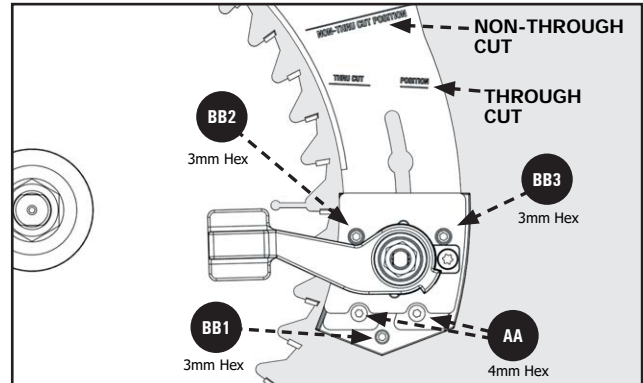
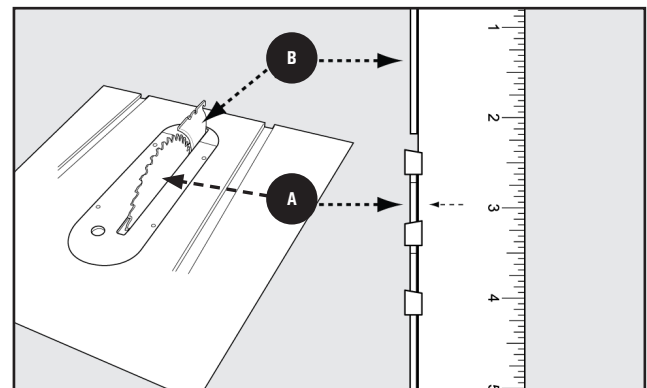
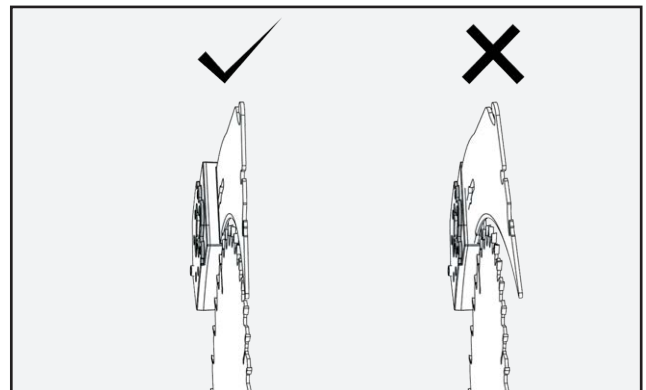
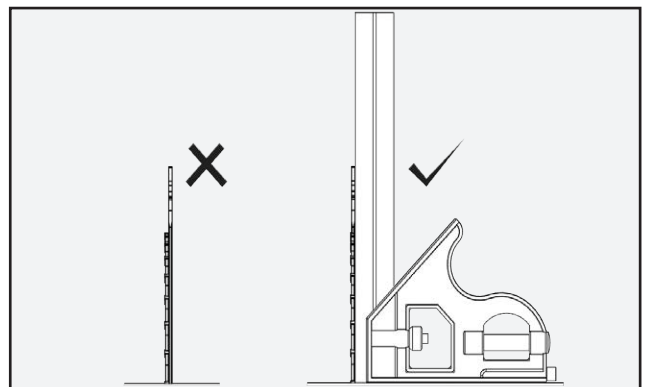

FIGURE 37
FIGURE 38
FIGURE 39
FIGURE 40
**NOTE:** Riving knife is located in this position for "NON-THRU" cuts and is also in this position when packaged for shipment. Location point for "THRU CUT POSITION" as shown in Figure 37. (Operator should adjust the riving knife to this position when making "THRU" cuts.)
If a parallel adjustment is required use Figure 37 and Figure 38 to make the following adjustments:
If the riving knife has horizontal misalignment, adjust as follows using Figure 37 and Figure 39.
If the riving knife has vertical misalignment, adjust as follows using Figure 37 and Figure 40.